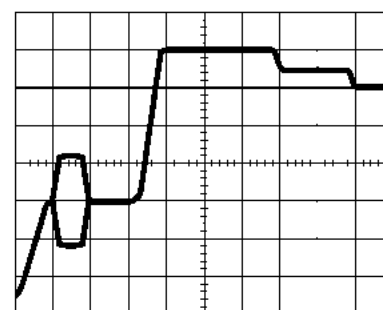

figure 4
- Select DELAY Mode. The burst goes to the beginning of the screen (Figure 4).